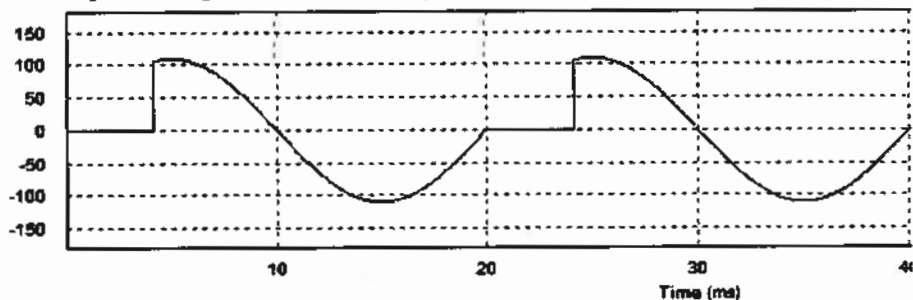

Figure 2. Output voltage waveform for question 9
9. The output voltage waveform in figure 2 below can be obtained by a